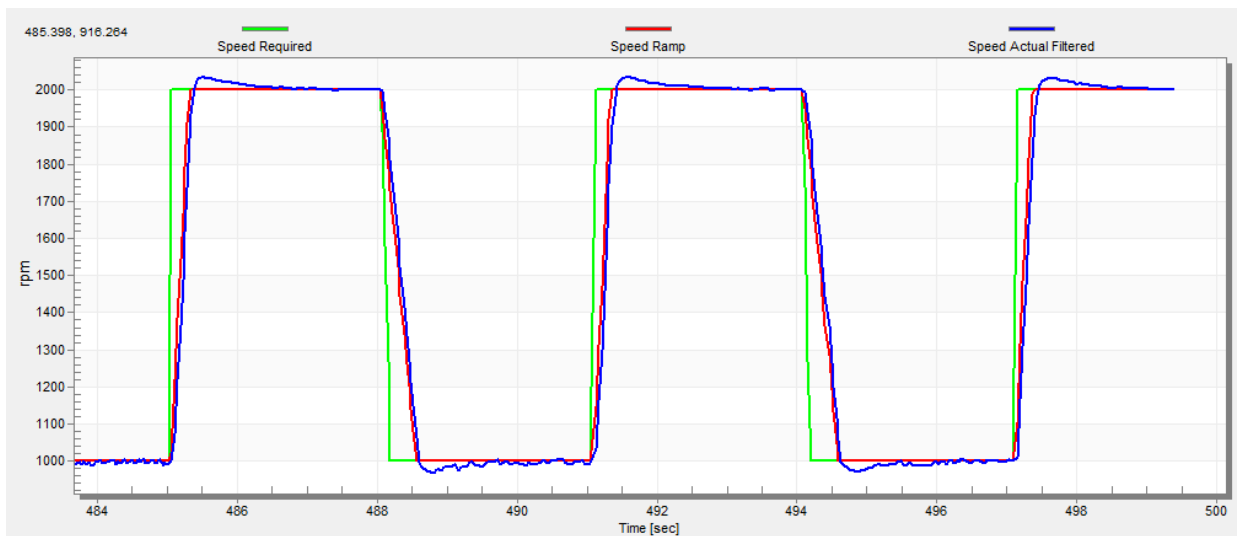

Figure 57. Speed controller response—speed loop response with a small overshoot
- The speed loop response has a small overshoot and the “Speed Actual Filtered” settling time is sufficient. Such response can be considered optimal (see Figure 57).